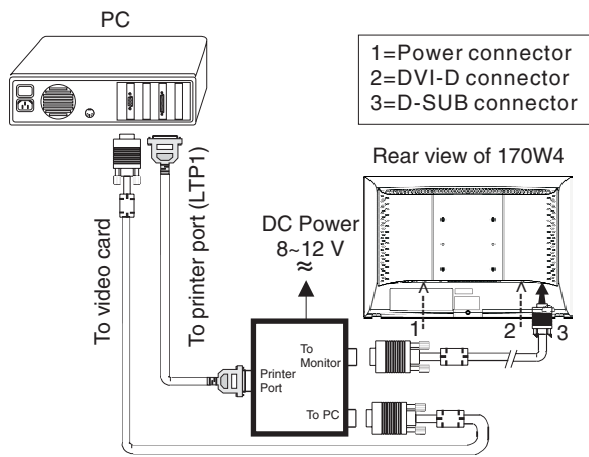

Fig. 14
Step 1: After initialize alignment box, connecting all cables and box as shown in Fig. 14